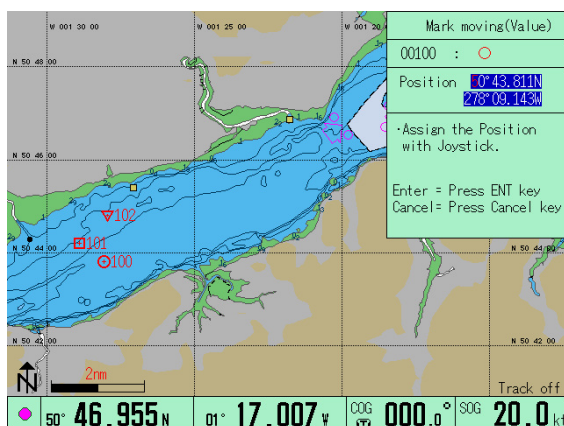

Figure 5.17b Moving the registered mark
- (3) Operate the Joystick up or down to select the mark number.
- (4) Press the ENT key to input the numerical value. The "Mark moving (Value)" popup window appears. (Figure 5.17b)
- (5) Operate the Joystick to select the mark position.
- (6) Press the ENT key. The new numerical value is set as the new mark. The popup window closes.